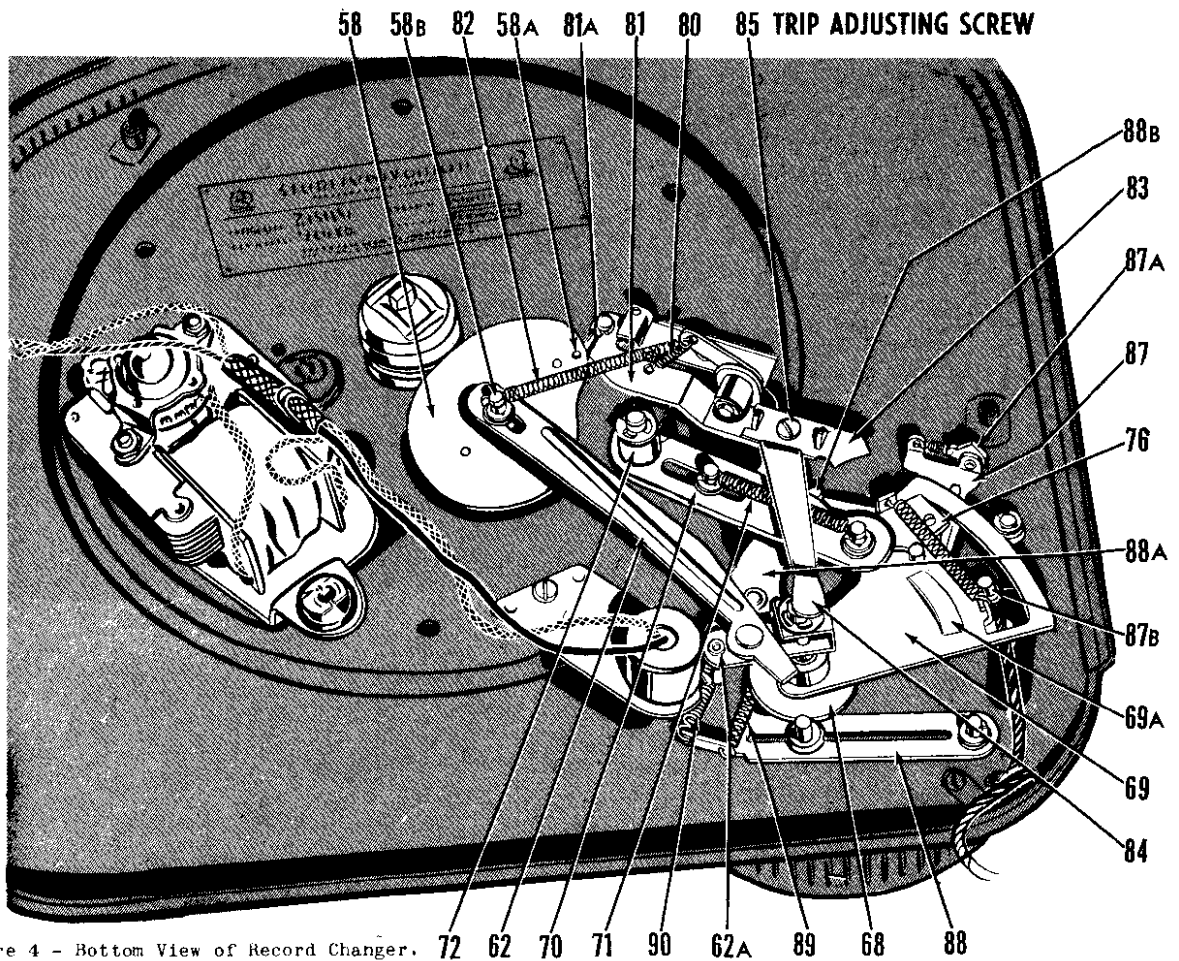

Figure 4 - Bottom View of Record Changer.
4. Adjust set-down screw (11) and repeat steps 2 and 3 until the proper distance between needle and centerpost is obtained.
This Record Changer uses the oscillating trip principle to begin the change cycle. Therefore it is very important that the trip adjusting screw (85) is properly adjusted for correct operation of the changer. (See Figure 4 and 6.)
10. REMOVING THE PLASTIC BASE HOUSING (28) (See Figures 4 and 8)